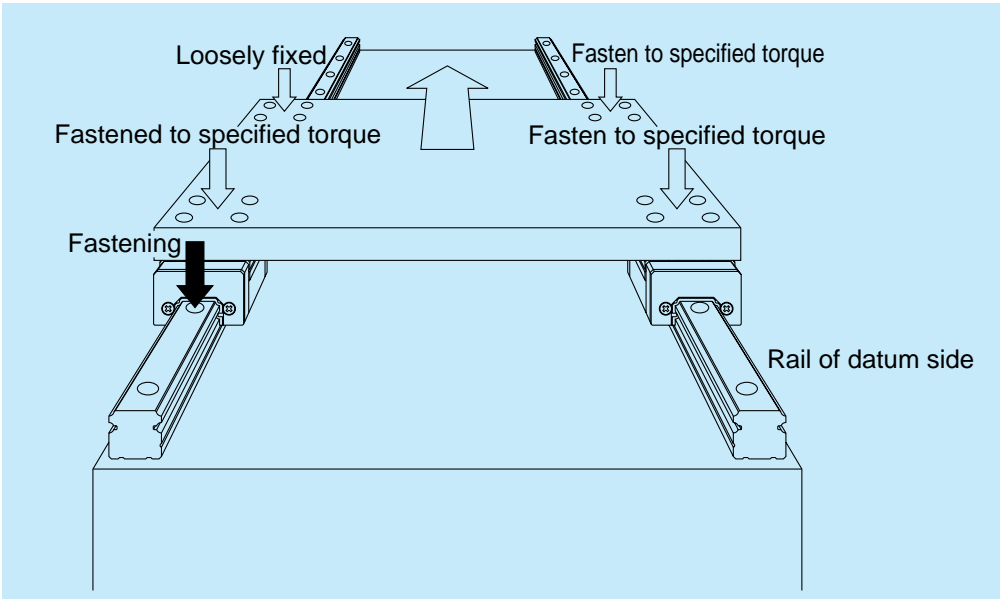

Fig. II-9-18 Easy installation
- ② Temporarily tighten the bolts on the adjusting side rail.
- ③ Tighten the ball slides on the reference side rail and one ball slide on the adjustment side rail with specified torque. Leave the rest of the ball slide on the adjusting side rail temporarily tightened (Fig. II-9-18).
- ④ While moving the table with each pitch of the bolt for rail: With specified torque, tighten the rail mounting bolt which is located immediately adjacent to the ball slide on the adjusting side rail that had been finally tightened.